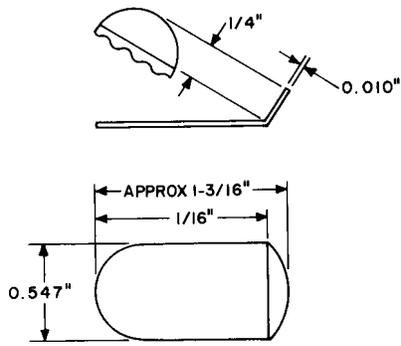

Fig. 3—684A Spring Insulator Tool
2.04 **684A:** The 684A spring insulator tool (Fig. 3) consists of a strip of insulating material. The 684A spring insulator tool is used for insulating moveable contact springs when replacing cards on AK-type relays.